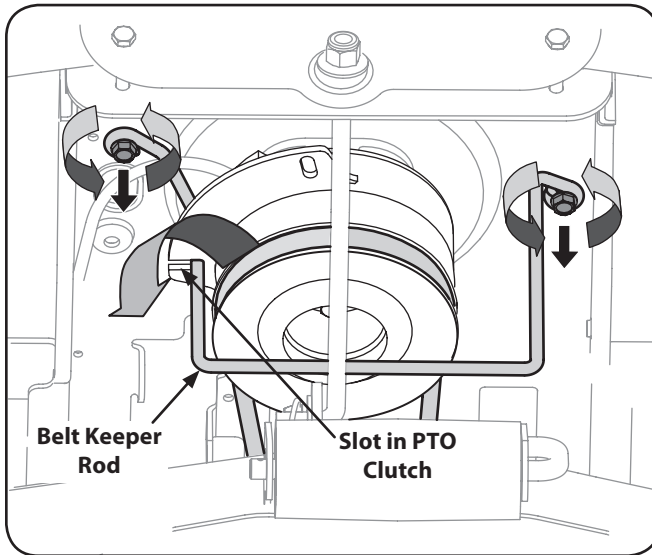

Figure 7-1
3. Locate the PTO clutch under the front of your tractor. See Figure 7-1.
4. Remove the PTO belt guard and PTO belt as follows, refer to Figure 7-1: